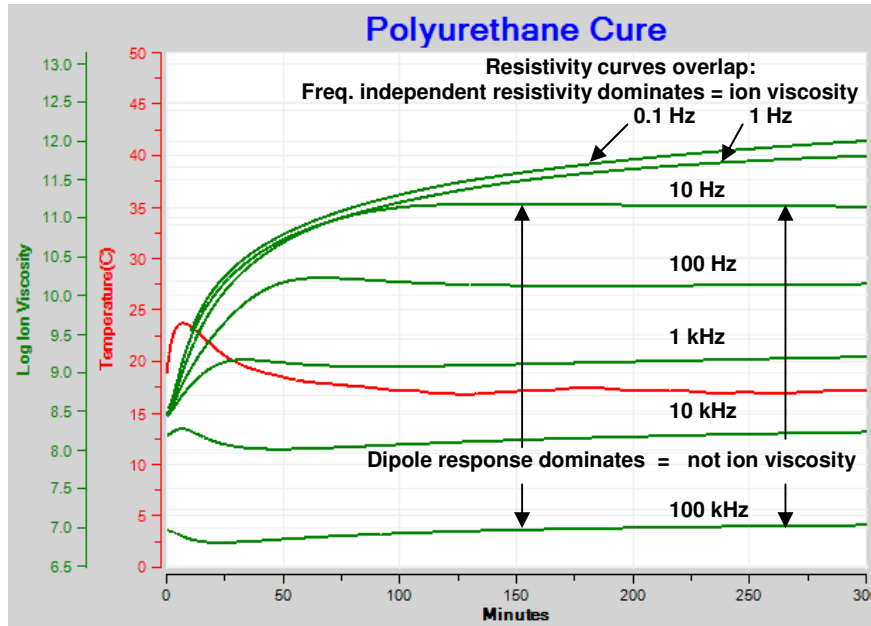

Figure 7
- Do look at resistivity from multiple frequencies, as in Figure 7, to determine ion viscosity